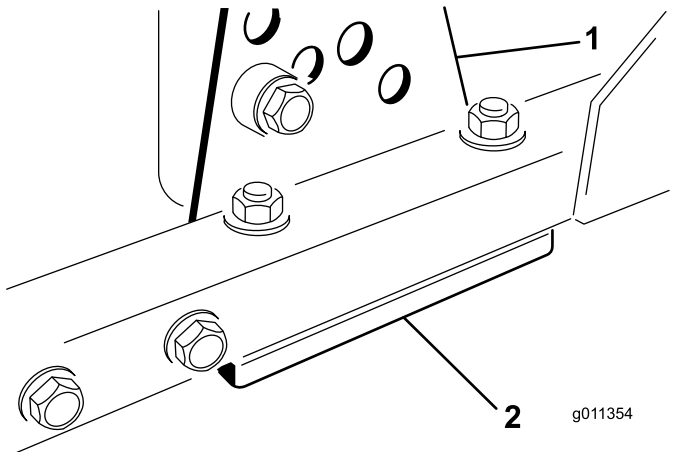

Figure 75
- Remove the height-of-cut bracket, (front, left, or right) from the deck frame (Figure 75).
- Adjust 1.5 mm (0.060 inch) shims and/or 0.7 mm (0.030 inch) shims between the deck frame and bracket to achieve the desired height setting (Figure 75).